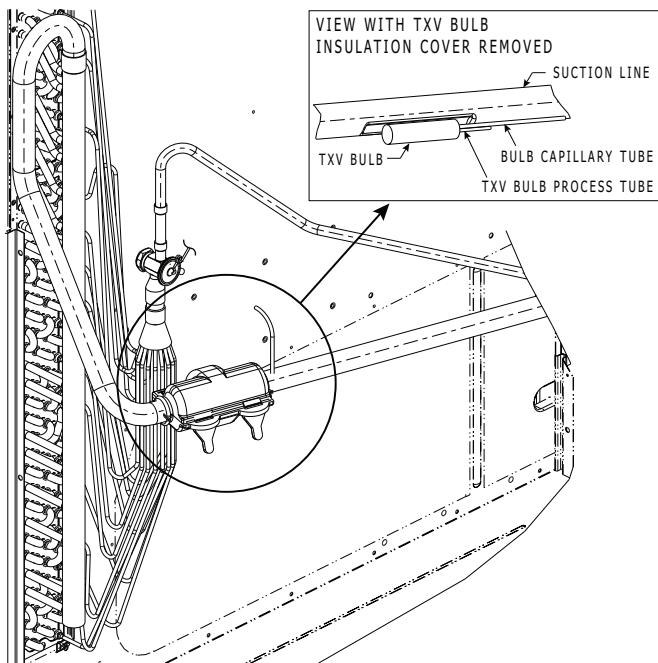

Fig. 23 — TXV Valve and Sensing Bulb Location
8. Attach TXV bulb in the same location where the original (in the sensing bulb indent) was when it was removed, using the supplied bulb clamps. See Fig. 23.